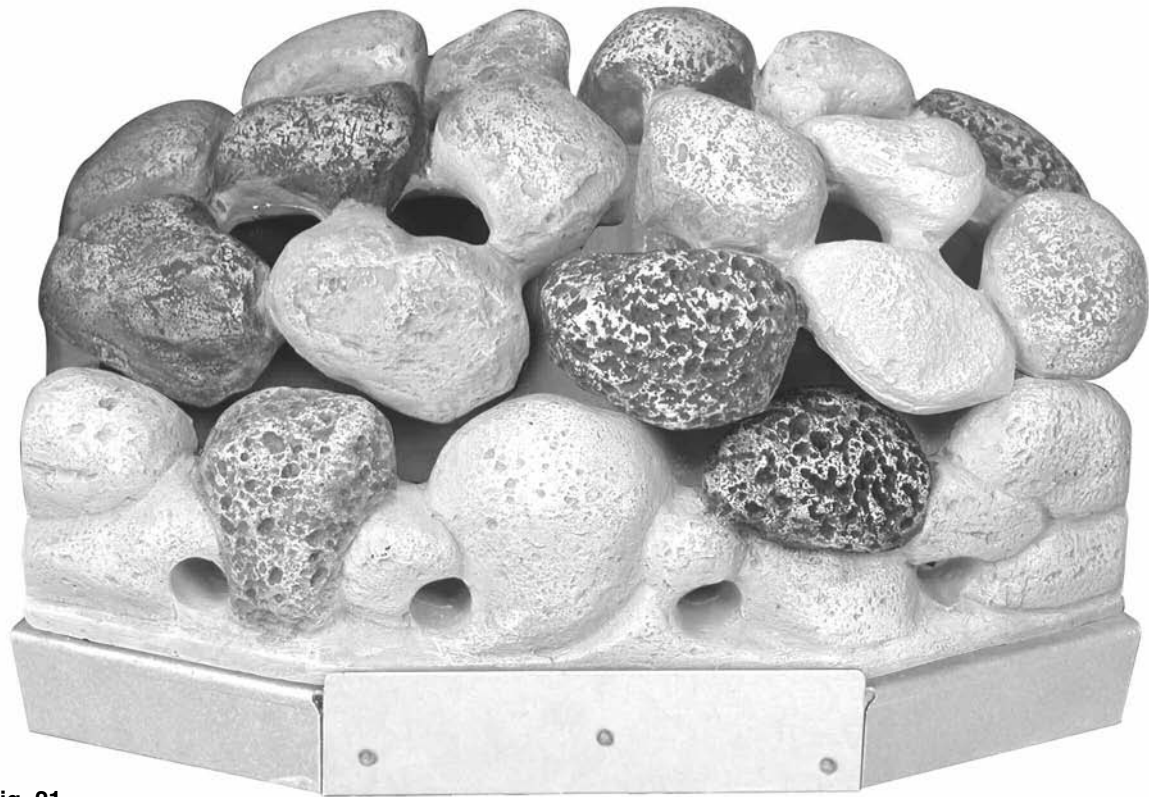

Fig. 21
5. Finally check that all the pebble pieces are 'nested' together correctly (Fig. 21).